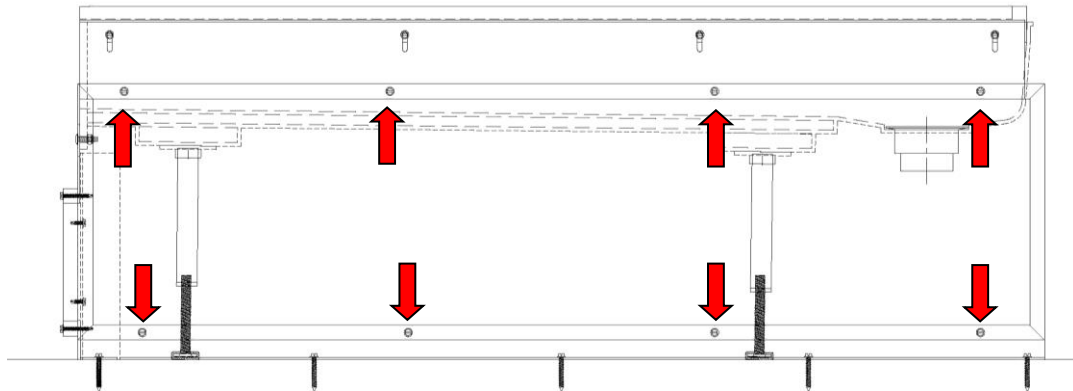

Fig. 46
8. Secure 13" Tall Front FRP Trim Panel to 4" Trim Plate and aluminum angle supports using the provided 10 x 1 1/2" TEK hex washer head sheet metal screw(s). See Fig. 46.